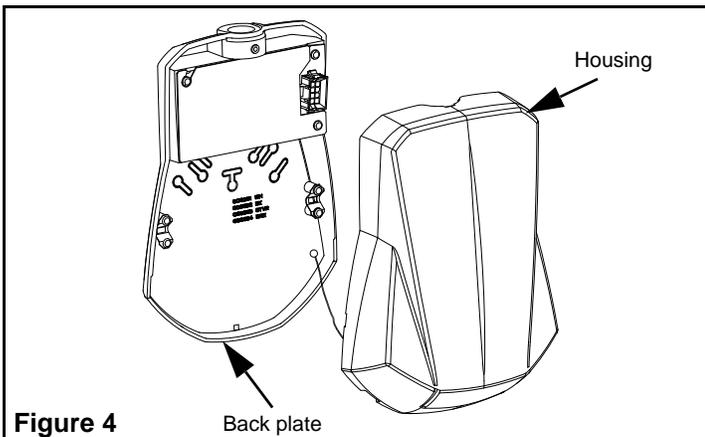

Figure 4
9. Align the unit housing over the back plate and press until it snaps in place (see figure 4).